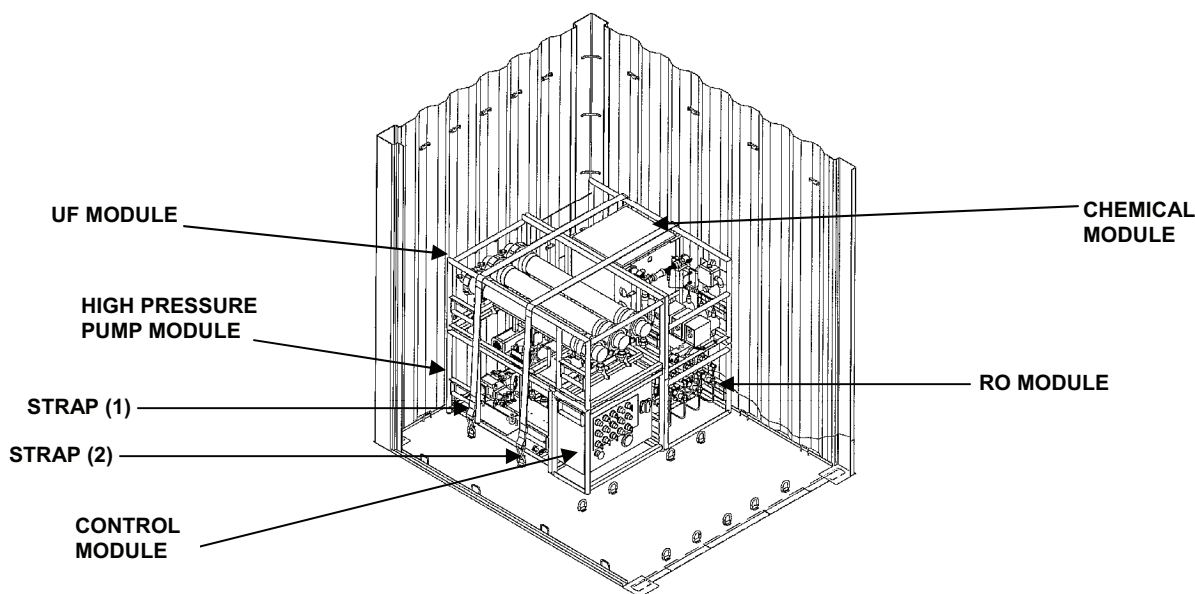

Figure 1. Loading TRICON (First Phase).
4. Connect two straps (straps 1, and 2) to D-rings on the right side of the TRICON and lay them out for securing the modules at a later time. See Figure 1.
5. Load the RO element module on the floor of TRICON. Position toward the rear on right side against the wall. See Figure 1.
10. Secure all five modules with the two straps prepared in step 4. See Figure 1.